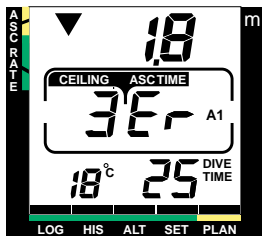

Fig. 3.17 DECOMPRESSION DIVE, ABOVE CEILING
- the ceiling depth is exceeded. A downward pointing arrow and a blinking error warning Er will appear (Fig.3.17). LUX S model gives also an audible alarm: continuous beep. You should immediately descend to or below the ceiling. The dive computer will otherwise enter a permanent error mode in three minutes, indicated by a non-blinking Er.
If you ascend above the ceiling, a downward pointing arrow will appear (Fig 3.17). In addition a blinking error warning Er reminds you that you have only three minutes to correct the situation. You must immediately descend to or below the ceiling.